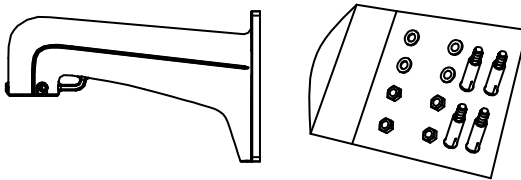

Figure 2-3 Wall Mounting Bracket
- The bracket in Figure 2-3 is the recommended bracket for this series of speed dome, and a pendant adapter is required if any other bracket is selected. The dimension of the pendant adapter is $G1\frac{1}{2}$.
- 1) Get the bracket and screws from the packing box as shown in Figure 2-3.